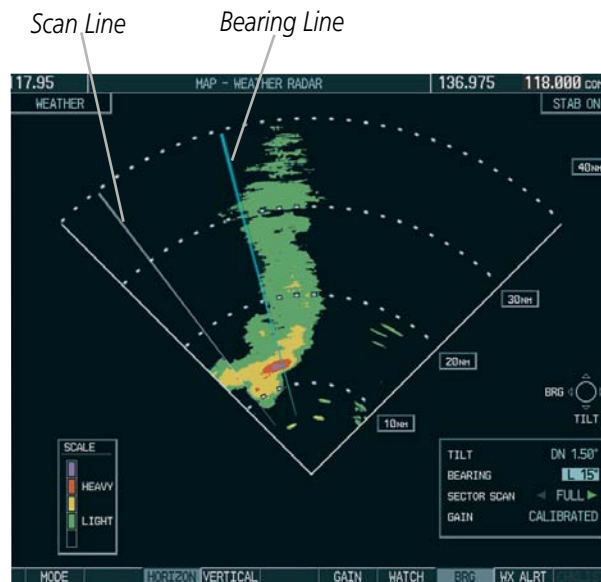

Figure 6-61 Bearing Line on Horizontal Scan
- 5) The horizontal scan is initially displayed (Figure 6-61). If desired, select the **VERTICAL** Softkey to change to vertical scanning.